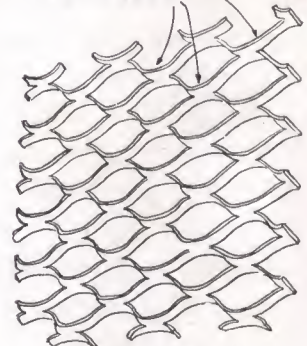

FIGURE 87
- (c) The metal lath furnished is a corrugated lath—that is, “self-furring” and requires no furring strips. The corrugations are those parallel ridges which are 4 inches apart. The lath is furnished in sheets and is to be put on horizontally around the building, not vertically up and down. Put on the lath so that the corrugations or ridges go against the sheathing, so as to hold the body of the lath away from the building. In this way these corrugations act as furring strips. This lath has a top and bottom to the sheet and is not reversible, so when you put it on be sure that it is turned so that the joints between each small mesh face upward and, therefore, form a small ledge (see Figure 87). Lap the ends and sides of the sheets by about 1 inch, and nest the ribs of one sheet into the next one. Work from the top down.